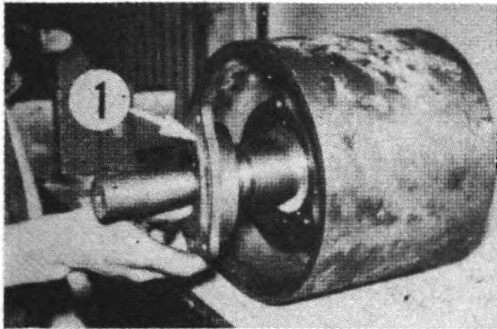

Figure 2. REMOVING OPEN COVER
6. Bolt open cover (1) in place. See Figure 2.